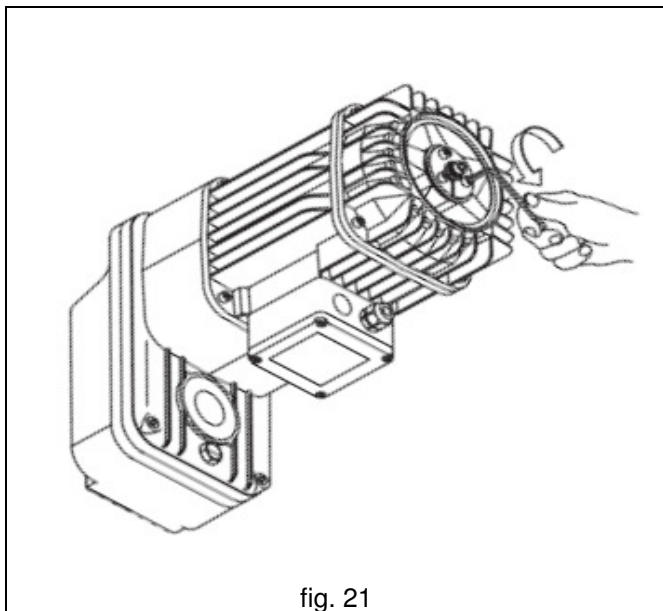

fig. 21
2. Completely unscrew the three screws from the locking ring nut on the brake block (fig. 21);